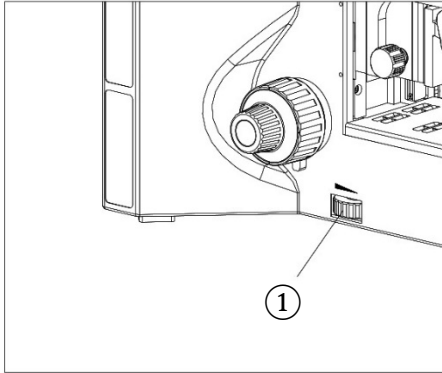

Fig. 9
Ensure the light adjustment wheel ① (Fig. 9) on the left side of the base of the stand is turned to the OFF position.